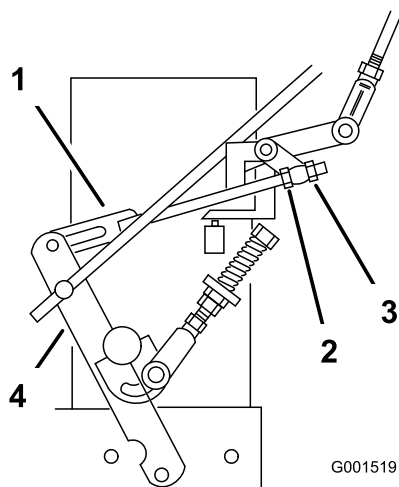

Figure 33
8. Loosen the front adjusting nut on left hydraulic control linkage (Figure 33).
9. Turn the left, rear adjusting nut counterclockwise until the wheel rotates forward (Figure 33).
10. Turn the rear adjusting nut clockwise 1/4 of a turn at a time. Then, move the speed-control lever to the FORWARD position and back to the NEUTRAL position. Repeat this until the left wheel stops rotating forward (Figure 33).